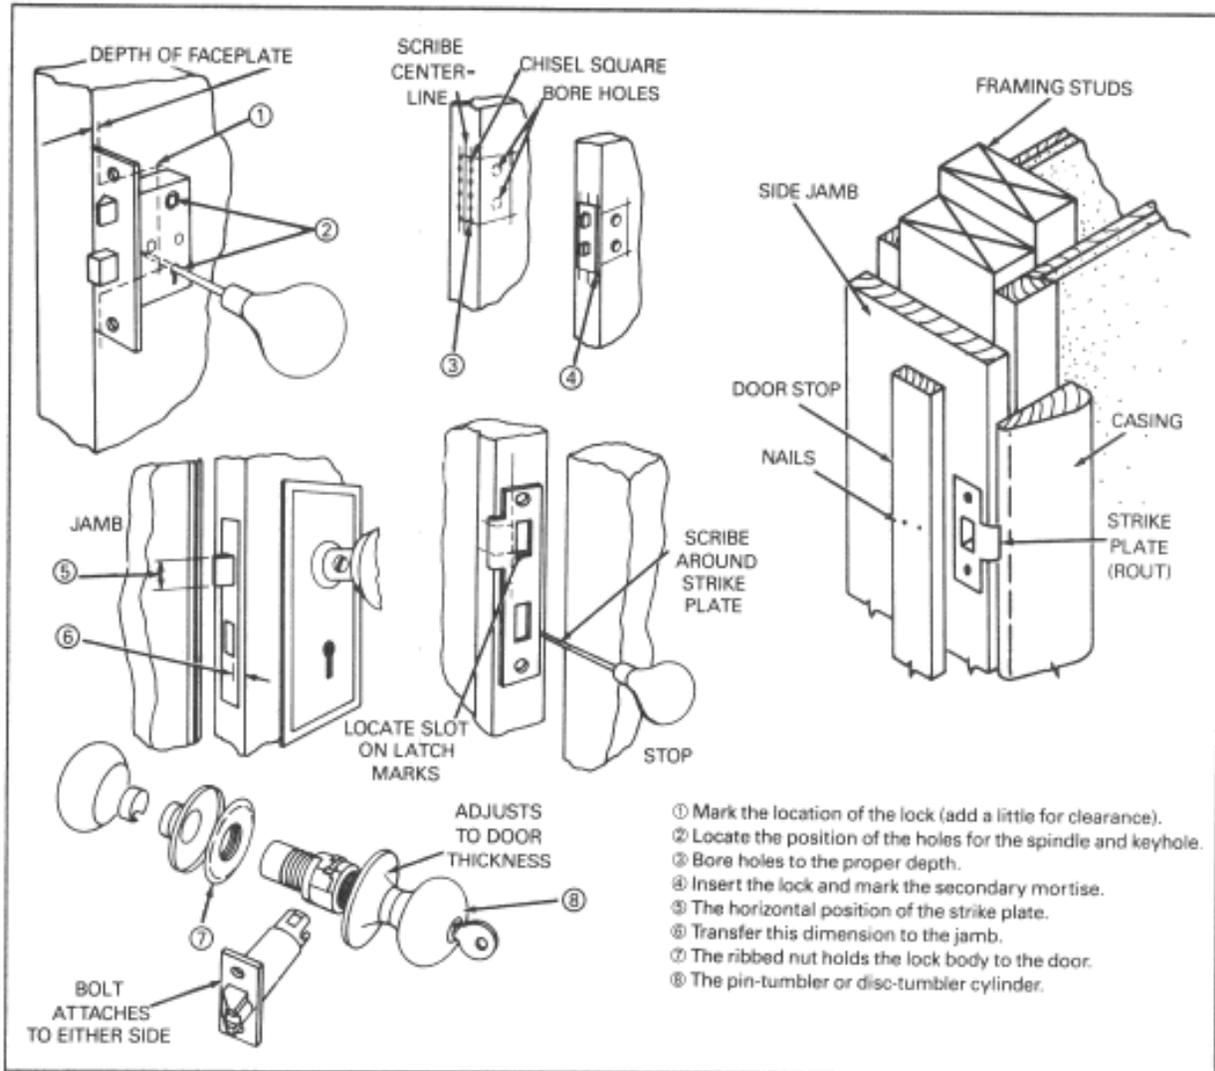

Figure 8-13. Installing lock and strike plate
Step 5. Bore out the wood to house the lock and the strike plate and mortises. (Figure 8-13, page 8-10, shows the installation of the lock and the strike plate.)